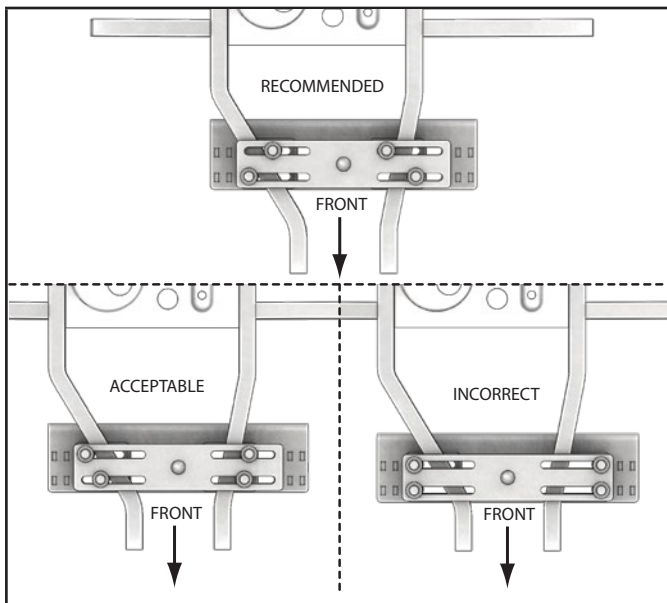

Figure 20 - Fastener Placement
3. Place the Upper Mount Plate (2) over the frame at the location behind the tires where the frame widens out. Refer to Figure 20 for best fastener placement.